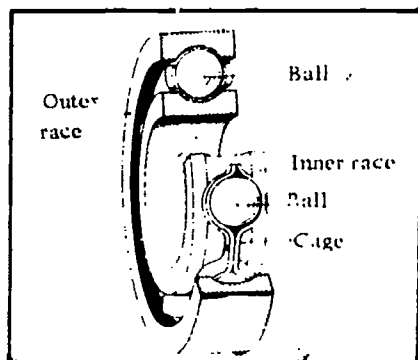

Fig 3-20. Single-row radial ball bearings.
- (1) Bearings. The most common causes of bearing trouble are improper alignment during installation and inadequate lubrication. If a bearing gives you trouble, it must be replaced. Bearings should not be removed unnecessarily because they are easily damaged. Normally, to remove a ball bearing, the end bells of the motor are removed and the rotor, shaft, and bearing assembly are removed from the motor. If the bearing housing has a removable outer cap, it is sometimes possible to remove the bearings without removing the end bells. When removing a ball bearing from the shaft, you should exert pressure only on the inner race (fig 3-20). If this is not possible, pressure on the outer race must be evenly distributed over the entire race. Pressure should be applied steadily and parallel to the shaft. Before removing a sleeve bearing, an air gap measurement is normally made to determine the amount of wear and to see if the bearing is out-of-round. Small sleeve bearings may be carefully tapped out, but bearing pullers are usually required to remove the larger size sleeve-type bearings. Bearings are replaced by applying steady, even pressure or by tapping lightly. Ball bearings must not be forced onto a shaft that is too large or badly worn. Grease retainers and oil slingers must be in place. Dirt and foreign matter must be kept out of bearing recesses as they will scar the surfaces and cause the races of ball bearings to become distorted. If a race is distorted, the balls will get out-of-round and cause an excessive friction load on the motor. After installation, bearings should be rotated by hand to see that they roll freely and without noise. Protective covers must be in place and be tight to prevent dirt and moisture from entering the bearing housing.